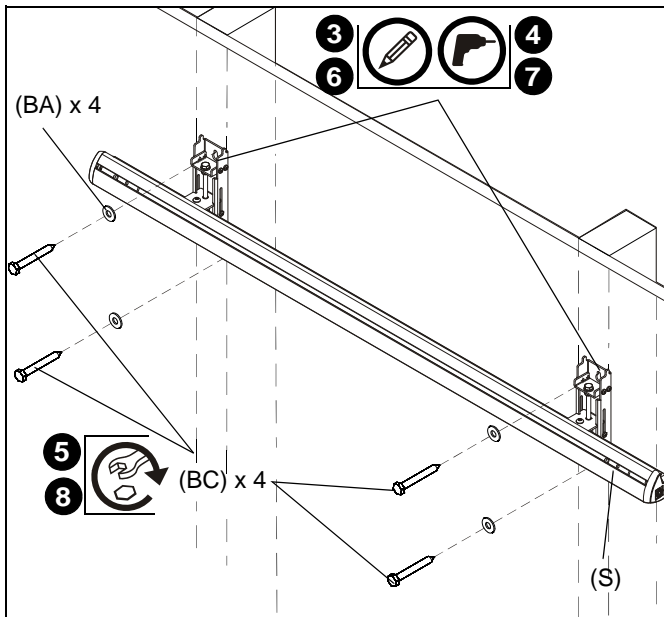

Figure 3
3. Using a level, mark the wall on each stud above existing chalkboard through top mounting hole in the wall assembly (S). (See Figure 3)
4. Drill one 1/8" pilot hole in each stud. (See Figure 3)
5. Use two 1/4-20 x 2-1/2" lag bolts (BC) and two 1/4" flat washers (BA) to attach wall assembly (S) to wall. (See Figure 3)
6. Mark the wall through the lower mounting hole in the wall assembly (S). (See Figure 3)
7. Drill one 1/8" pilot hole in each stud through lower mounting hole in wall assembly (S). (See Figure 3)
8. Use two 1/4-20 x 2-1/2" lag bolts (BC) and two 1/4" flat washers (BA) to attach wall assembly (S) to wall. (See Figure 3)